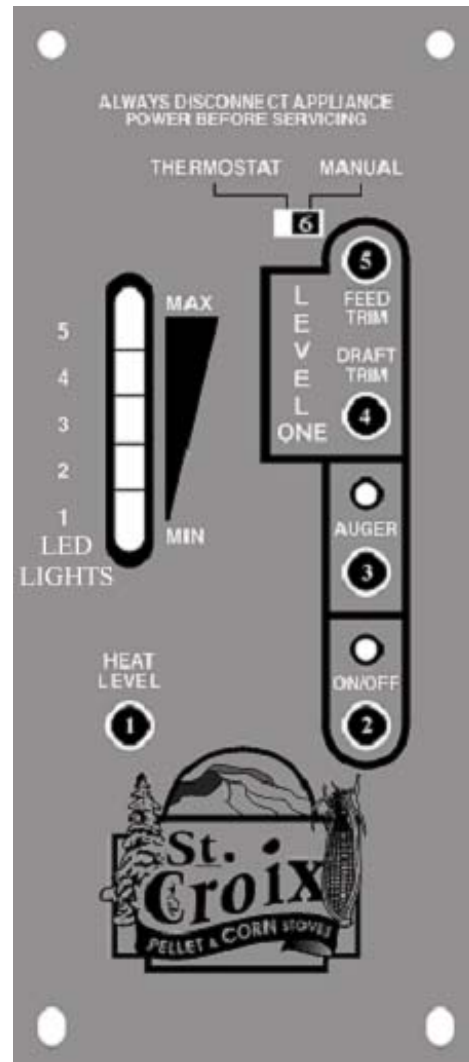

Figure 2
A closer look at the Control Board to the right in figure 2 will explain how the board works. There are five buttons labeled 1 through 5, a slide switch labeled 6 and a LED Light bar with 5 Heat Settings. ***The LED Light bar is also used during the Diagnostic process, see page 8 for more details.***
The buttons on the board function as follows: (Refer to Figure 2. The touch pad buttons and Slide Switch are labeled with the white numbers 1 through 6)
4. Close the door and push the On/Off button on the control board. (*Button #2, see figure 2*)
## Shutting The Stove Off (Refer to Figure 2)
The #2 LED and the #3 LED lights on the LED Light bar as show in Figure 2 will flash to give a diagnostic code to help in diagnosing problems that may occur.
1. The **Proof of Fire** switch. This switch will sense the temperature of the Exhaust rising during start up. If the Exhaust temperature does not reach 110 degrees F, or if during use the temperature drops below 110 degrees F, the Stove will go into “**Internal Alarm**” and the Auger will quit feeding fuel. Once the stove completes the safety shutdown, the #3 LED will start blinking. (See Figure 2 on Page 6 and point 4 on page 20)
2. The **High Limit** switch. This sensor will sense if the unit reaches temperatures that are too high for normal operation. If this happens the Auger will quit feeding and the #2 and #3 LED lights will flash simultaneously. (See Figure 2 on Page 6 and point 6 on page 21)
3. The **Vacuum** Switch - For the stove to operate, the Firebox needs to be sealed. During the first 30 seconds after the stove has been turned on the Control Board will check if the switch senses negative pressure (Vacuum) in the Firebox of the stove. If there is no negative pressure, the stove will shut down and the #2 LED will start blinking. (See Figure 2 on Page 6 and point 5 on page 21).